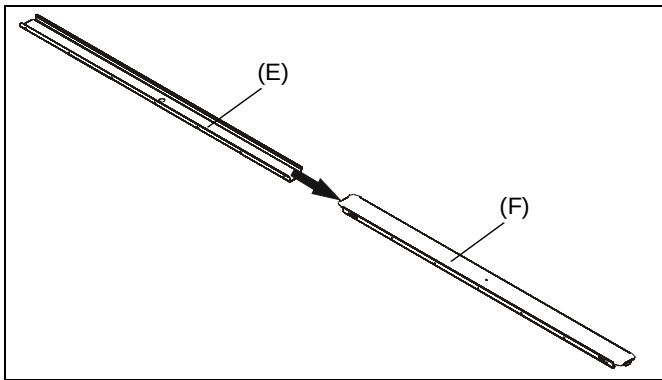

Figure 7
1. Slide inner top frame (E) into outer top frame (F), making sure screws on inner frame are aligned with holes on outer top frame. (See Figure 7)